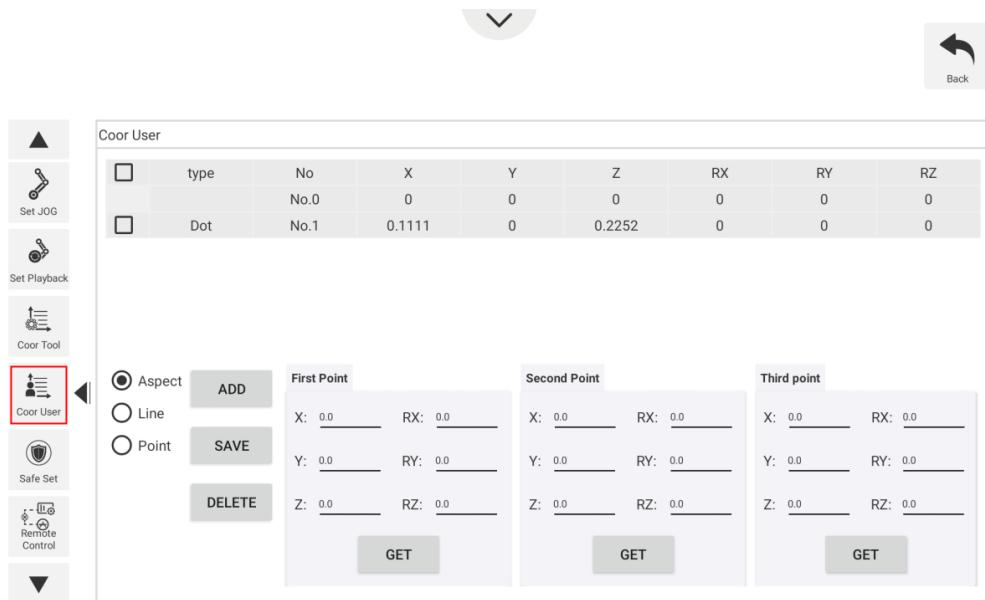

Figure 1.8 User coordinate system
**Step 1** Click **Coor User** on the **Setting** page. As shown Figure 1.8.